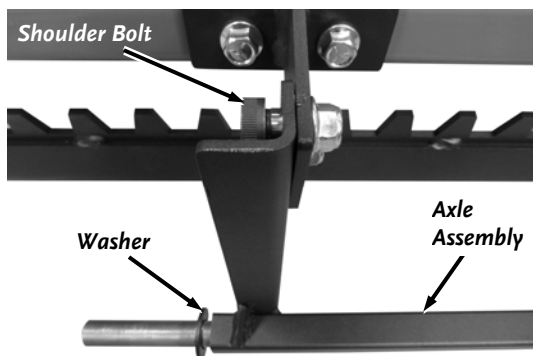

Figure 20
25. Position the Axle Assembly on the outside of the Axle Brackets (**Figure 20**). Align the top holes of the Axle Brackets to the holes in the Axle Assembly and secure with 1/2" X 3/8"L, 3/8-16 Shoulder Bolts (head facing out) and Locknuts using a 1/4" Allen Wrench and 9/16" Wrench.